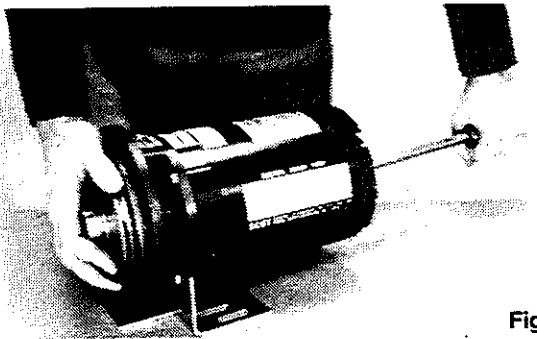

Figure 2
7. Remove motor shaft end cap. Insert a screwdriver in slot of motor shaft. While holding shaft against rotation, unscrew impeller from shaft by turning counterclockwise when facing impeller (Fig. 2).